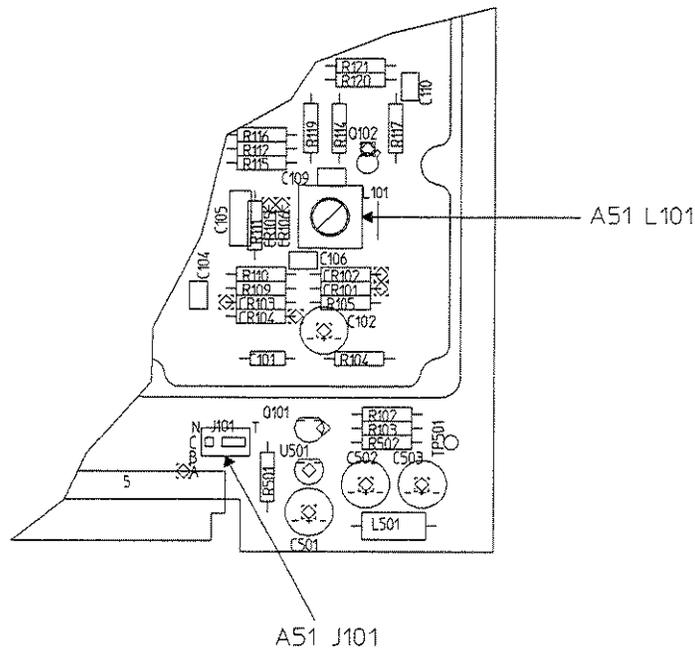

Figure 1-2. A51 Interpolation VCO Component Locator
2. Move the jumper on A51 J101 to its test position (see figure 1-2). Place the assembly on an extender board.